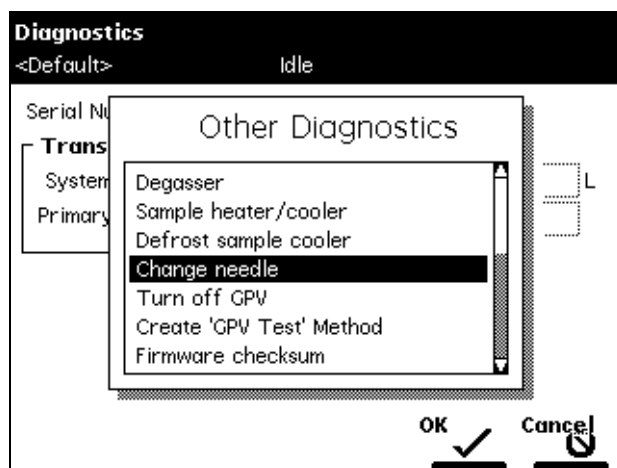

Figure 7-14 Other Diagnostics Screen
4. In the Main screen, press the **Diag** screen key, then press the **Other Diags** screen key. The Other Diagnostics screen (Figure 7-14) appears.